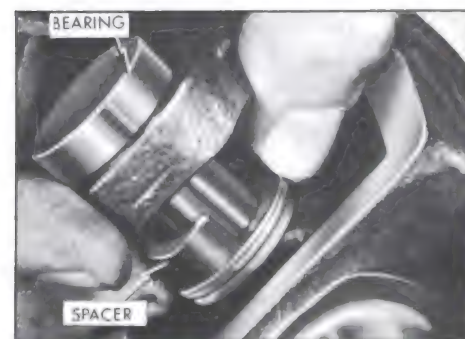

Figure 6-55—Installing Spacer
4. Release the pump and remove the propeller shaft. Install Spacer J-9522-5 over the spider journal at the space provided with the bearing forced partially through the link yoke. See Figure 6-55. Reposition propeller shaft in fixture as before and force with the added assistance of the Spacer.